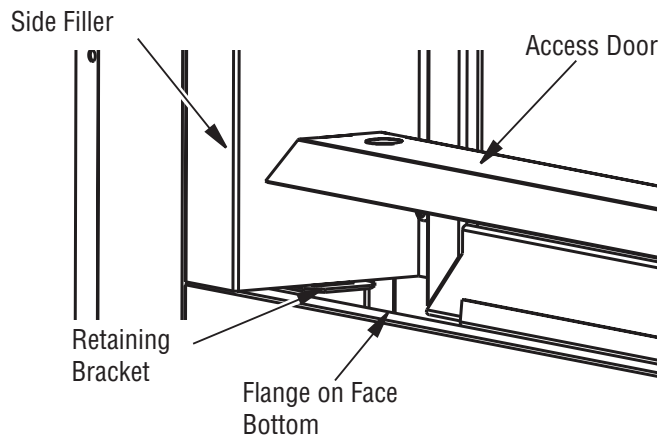

Figure 24 - Access Door for See-Thru Applications
1. Place access door in front of fireplace opening with the slanted side facing forward. The slanted surface will slide underneath the flange of the bottom face. Insert tabs on side of access door into slots on retaining brackets (See **Figure 24**).
2. Remove access door (see **Figure 24, Page 14**).